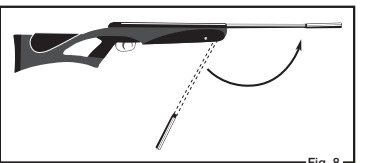

Fig. 8
- Move the barrel back to its original position by pushing the barrel up until it locks (Fig. 8). Once again, be careful not to pinch your hands or fingers. Be sure the airgun is "ON SAFE" and pointed in a safe direction.